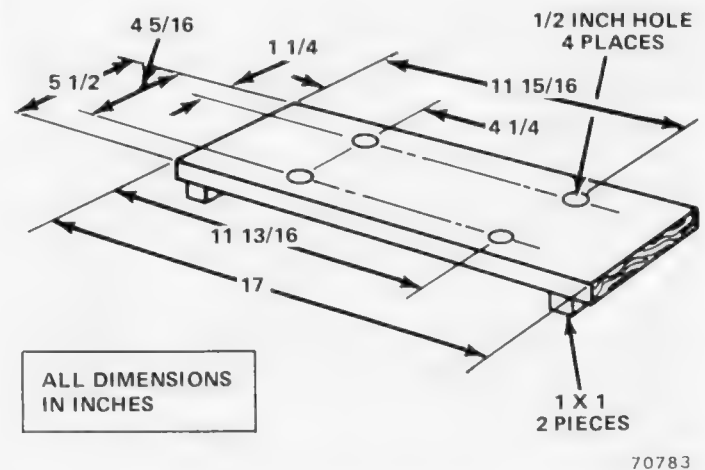

Fig. 1B-22 Cylinder Head Fixture Fabrication
(1) Fabricate wooden fixture as shown in figure 1B-22. Attach fixture with 3/8 x 4 3/4 inch screws and nuts to bottom of head to hold valves against seats while springs are compressed.
(2) Compress valve spring with Spring Compressor J-26809 (fig. 1B-23). Remove valve locks, retainers, springs and oil deflector.
(3) Remove valves and place in rack in same order as removed from cylinder head.